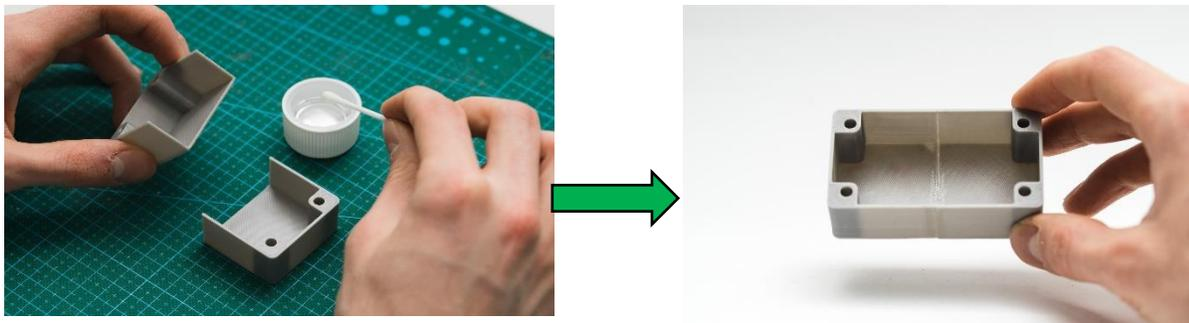

Fig. 3.4 Two grey ABS print halves attached together by cold welding
**Process:** When the size of a print exceeds the maximum volume of the printer, the design is often broken down into smaller sections and assembled together after printing. For PLA and other materials, assembly can be done using Bond-O or an appropriate glue (glue selection will depend upon plastic). For ABS, multi-part assemblies can be “welded” together using acetone. The mating surfaces need to be brushed lightly with acetone, and firmly held together, or clamped, if possible, until the majority of the acetone evaporates. At this point, the two parts are chemically bonded to one another. (Refer Fig. 3.4).